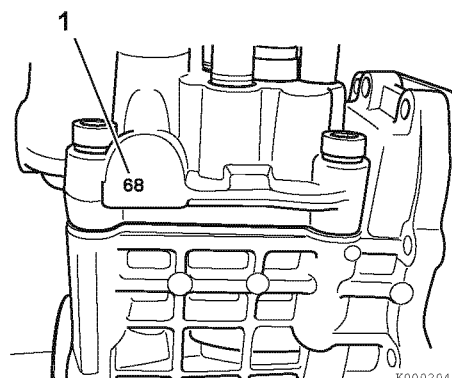

Figure 7-29
- Calculate the difference between the timing index numbers (1, **Figure 7-29**) of the fuel injection pump that you removed and the replacement fuel injection pump. See *Calculation example below*.